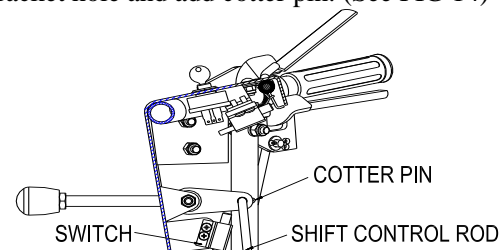

FIG 14
- Move Shift Control Rod into neutral position. Handle should compress pressure switch button down 5mm, otherwise rod length should be adjusted. To change rod length, remove cotter pin from upper Shift Control Rod Assembly. Remove rod from lever bracket hole. Rotate rod until desired length is achieved to cause switch to compress correctly. Reinstall rod into lever bracket hole and add cotter pin. (See FIG 14)